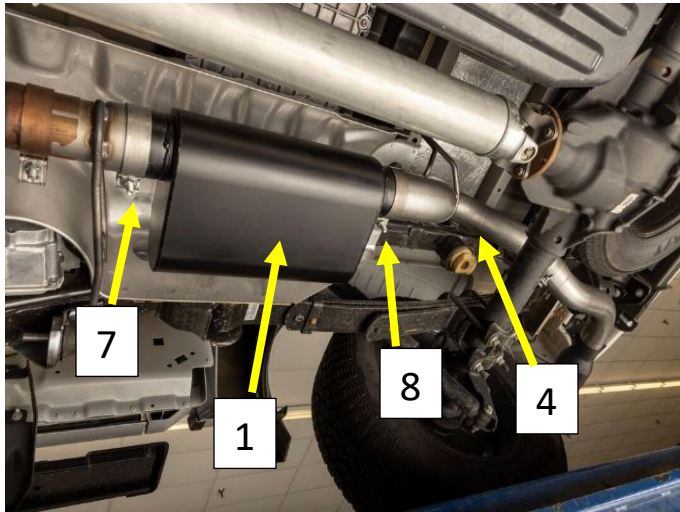

Figure 5
4. Install a 3" band clamp (7) on to the muffler inlet and a 3.5" band Clamp (8) on to the outlet of the muffler with the bolt to the outside and the nut facing down. **Fig. 5**
5. Install the muffler (1) on to the muffler inlet pipe with the Flowmaster logo facing the ground. **Fig. 5**
6. Tighten the 3" inlet clamp (7) to allow for adjustment. **Fig. 5**
8. Install the muffler outlet pipe over the axle and install the hanger rod into the muffler hanger and the outlet pipe into the muffler at the same time. **Fig. 5/6** - Tighten the 3.5" clamp (8) to allow for adjustment